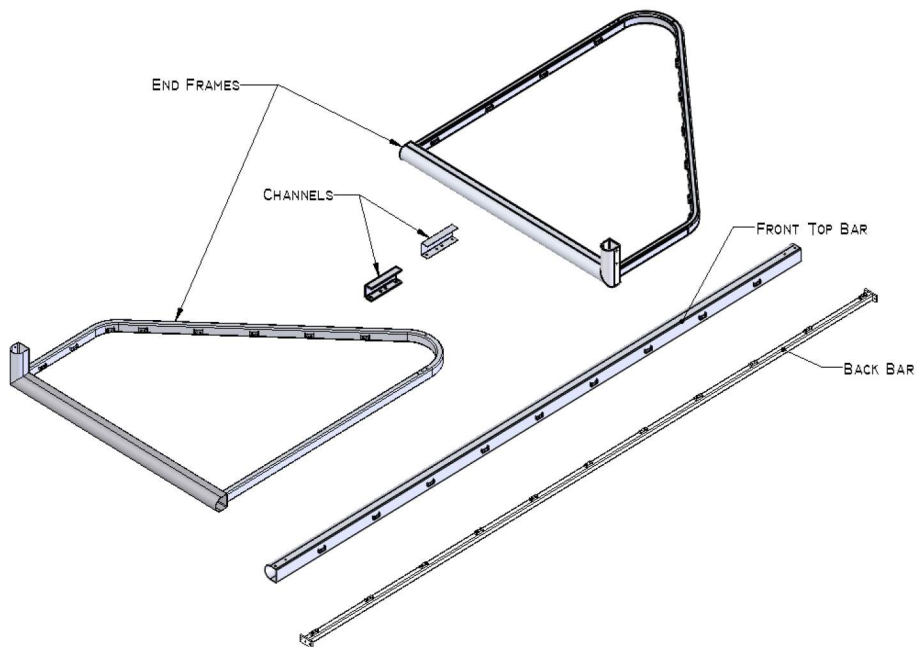

Figure 1
1. Begin by laying out all of the soccer goal components. Place the end frames far enough apart to fit the top crossbar between them with the net clips facing outwards. Place one channel at each connection. (Fig. 1).